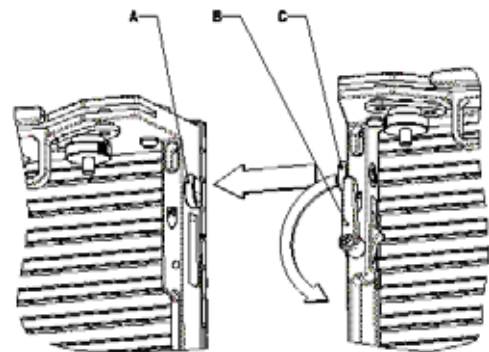

Figure 14: Horizontal locking in a flat-screen array
- See Figure 14. When two panels are alongside each other, rotate both the two side-to-side locking handles **B** on one panel fully so that the two side-to-side locking hooks **C** engage in their posts in the other panel and lock the panels together.
8. Reinstall the alignment cones (see Figure 14) on the sides of panels and Headers before installing panels in a flat wall.